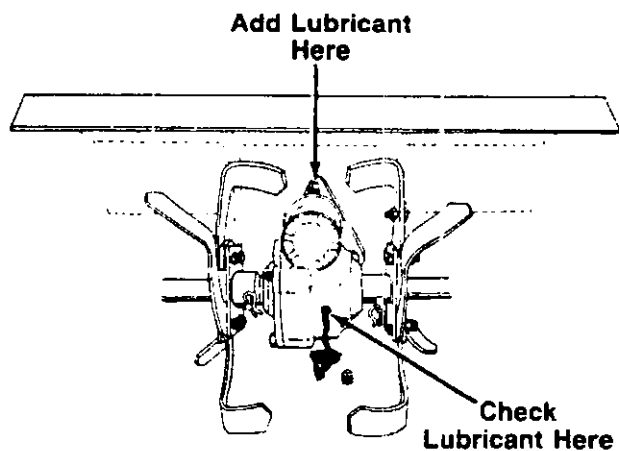

FIGURE 16.
3. If lubricant flows from the outlet, lubricant is at the correct level. See figure 16.